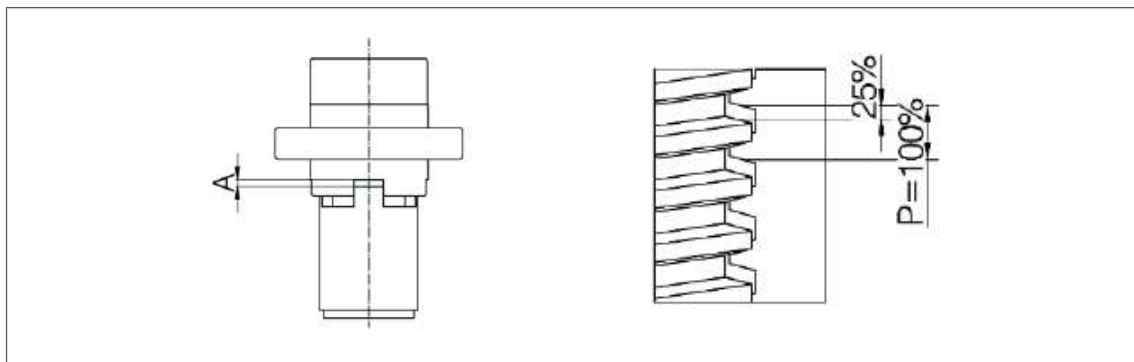

Fig. 20: Safety catch nut SIFA: Dimension „A“ for comparison during wear test
4. If a safety catch nut SIFA is fitted. Measure dimension „A“ and make a note of it (see Fig. 20). This dimension in new condition serves as a reference dimension in the further course of operation and is necessary to be able to assess wear later (see chapter 7.1.1., page 25)
- 3. If a safety catch nut SIFA is fitted: check wear as shown in Fig. 20.